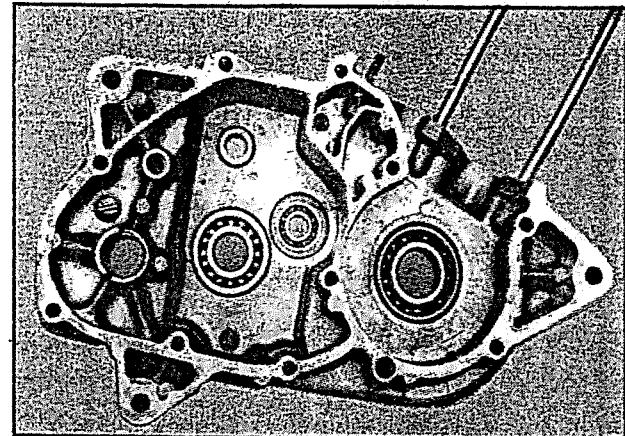
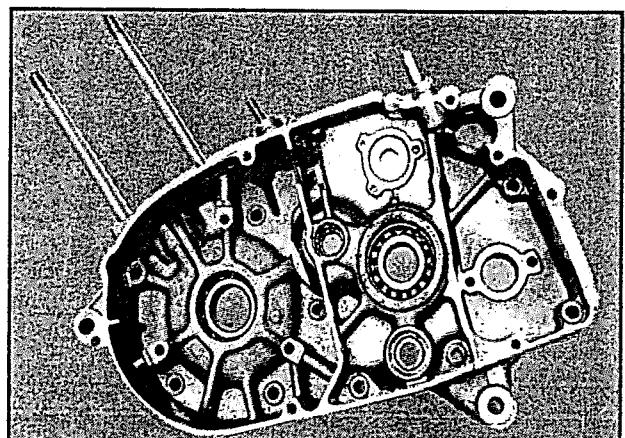

Fig 3.50
Fig 3.53
- Use the following special tools to remove the bearings and drive shaft bush from the crankcase halves (fig 3.50 to fig 3.53)